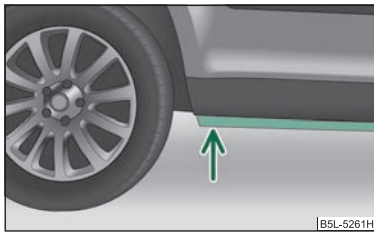

Fig. 154 Crossing bodies of water
- Determine the depth of the water when driving through bodies of water. The water can reach at the maximum the web on the lower sill of the vehicle ⇒ fig. 154.